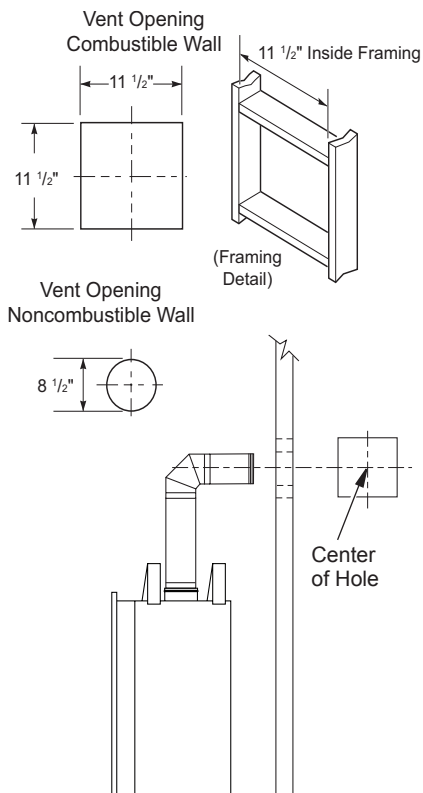
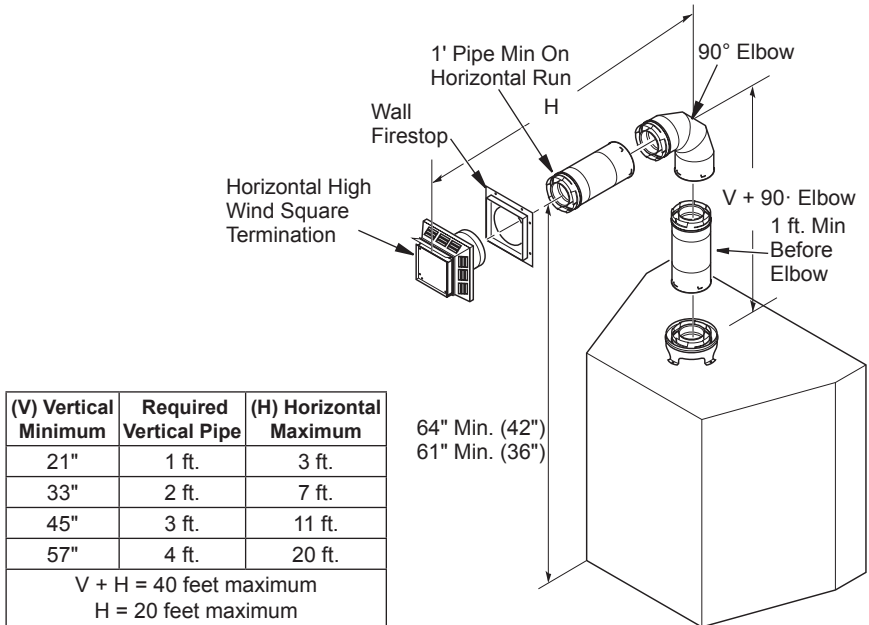

Figure 10 - Vent Opening Requirements
Figure 15 - Horizontal Termination Using One 90° Elbow
1. Set fireplace in its desired location and determine the route your horizontal venting will take. Do not secure fireplace until all venting has been installed. Some installations require sliding fireplace in and out of position to make final venting connections. Figures 15 and 16 on pages 13 and 14, show different configurations for venting with horizontal termination that will help you decide which application best suits your installation. Check to see if wall studs or roof rafters are in the path of your desired venting route. If they are, you may want to adjust location of fireplace.
Figure 15 shows a configuration for venting with horizontal termination with a chart of critical minimum and maximum dimensions which MUST be met.
1. Cut a 11 1/2" square hole in ceiling using locating hole as a center point. Opening should be framed to 11 1/2" x 11 1/2" inside dimensions, as shown in Figure 10 on page 11 using framing lumber the same size as ceiling joists. If area above ceiling is an insulated ceiling or an attic, nail firestop from top side. This prevents loose insulation from falling into required clearance space. If area above ceiling is a living space, install firestop below framed hole. Firestop should be installed with no less than three nails per side (see Figure 15).
3. Cut a hole in the roof using locating hole as a center point. (Cover any exposed open vent pipes before cutting hole in roof.) The 11 1/2" x 11 1/2" hole must be measured on the horizontal; actual length may be larger depending on pitch of roof. There must be a 1" clearance from vent pipe to combustible materials. Frame opening as shown in Figure 10, page 11.